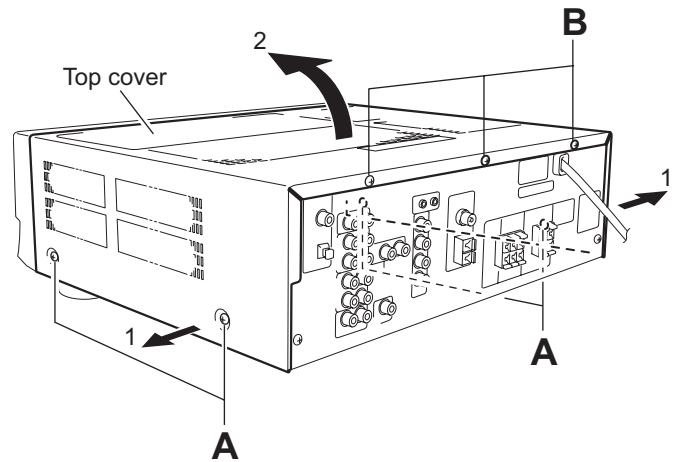

Fig.1
2.1 Removing the top cover (See Fig.1)